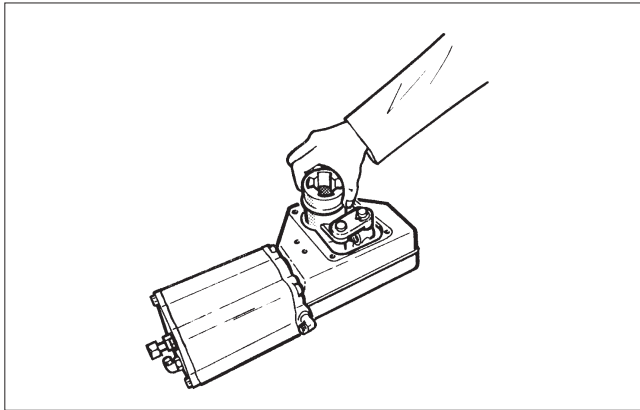

Fig. 15 Removing the linkage from the housing
- Turn lever arm (3) to detach the bearing unit from the piston rod (10). Lift the entire linkage out of the housing. See Fig. 15.
- Turn lever arm (3) to detach the bearing unit (5) from the piston rod. Lift the entire linkage out of the housing. See Fig. 15.